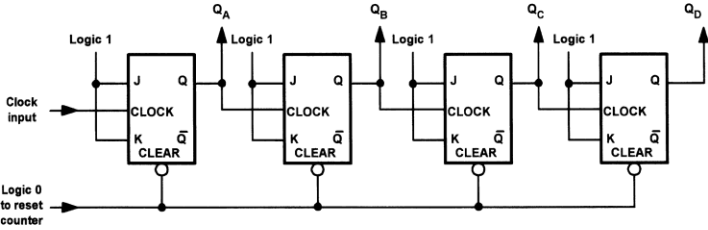
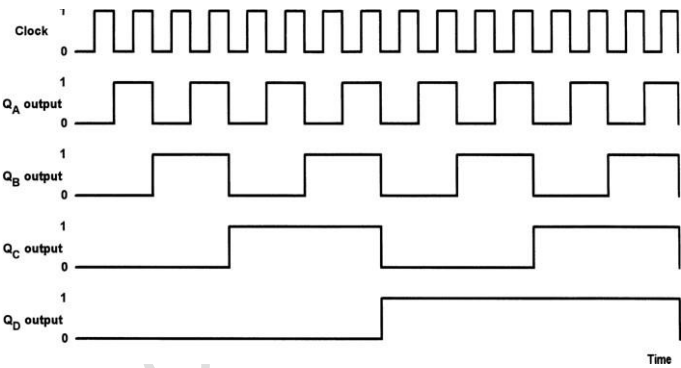

Figure 10.22 Four-stage binary counter using J-K bistables
Figure 10.23 Timing diagram for the four-stage binary counter shown in Fig. 10.22
- Fig. 10.22 shows the arrangement of a four-stage binary counter based on J-K bistables. The timing diagram for this circuit is shown in Fig. 10.23.